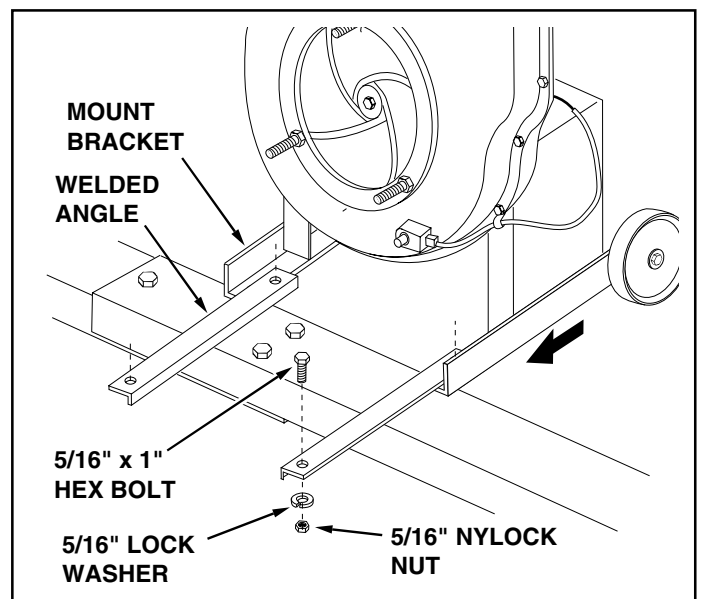

FIGURE 15
30. Align the engine base with the tongue's welded angles. Tilt the engine base back on it's wheels so that the ends of the mount brackets rest on the tongue, **underneath** the welded angles. Lift up on the engine base and slide the engine mount brackets **underneath** the welded angles. Fasten the mount brackets to the welded angles using four 5/16" x 1" hex bolts, 5/16" lock washers and 5/16" nylock nuts. **Tighten** the bolts securely. See figure 15.